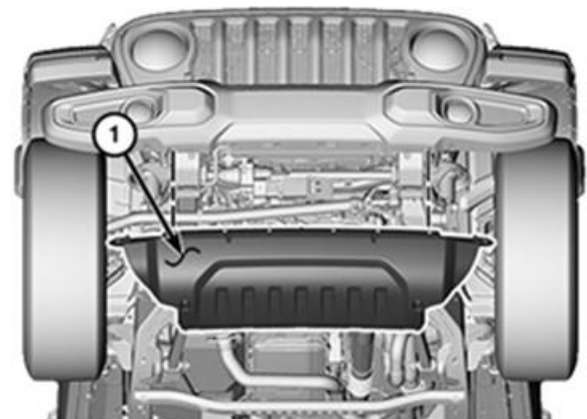

Figure 5 – Air Dam
5. Remove the air dam (1) (Figure 5).